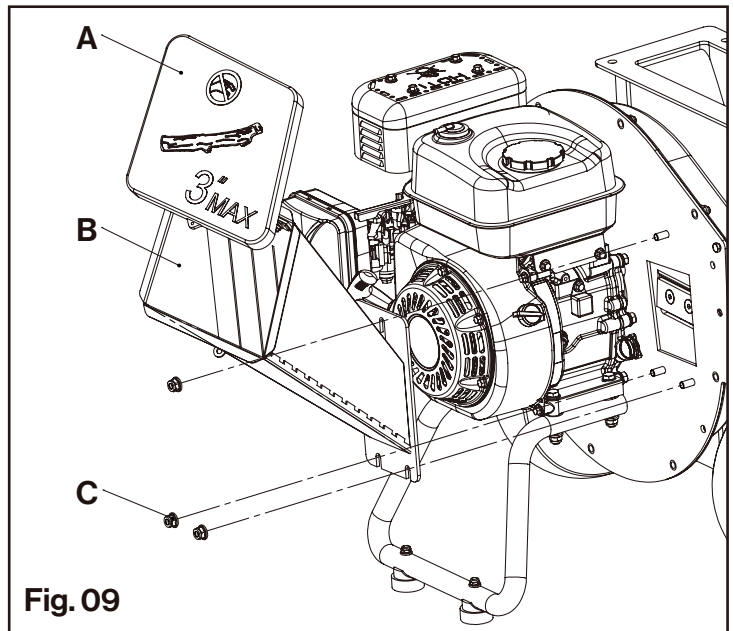

Fig. 09
2. Remove the nuts securing the side chute to the front of the chipper. Remove the side chute to access the knives. **(Fig.09)**